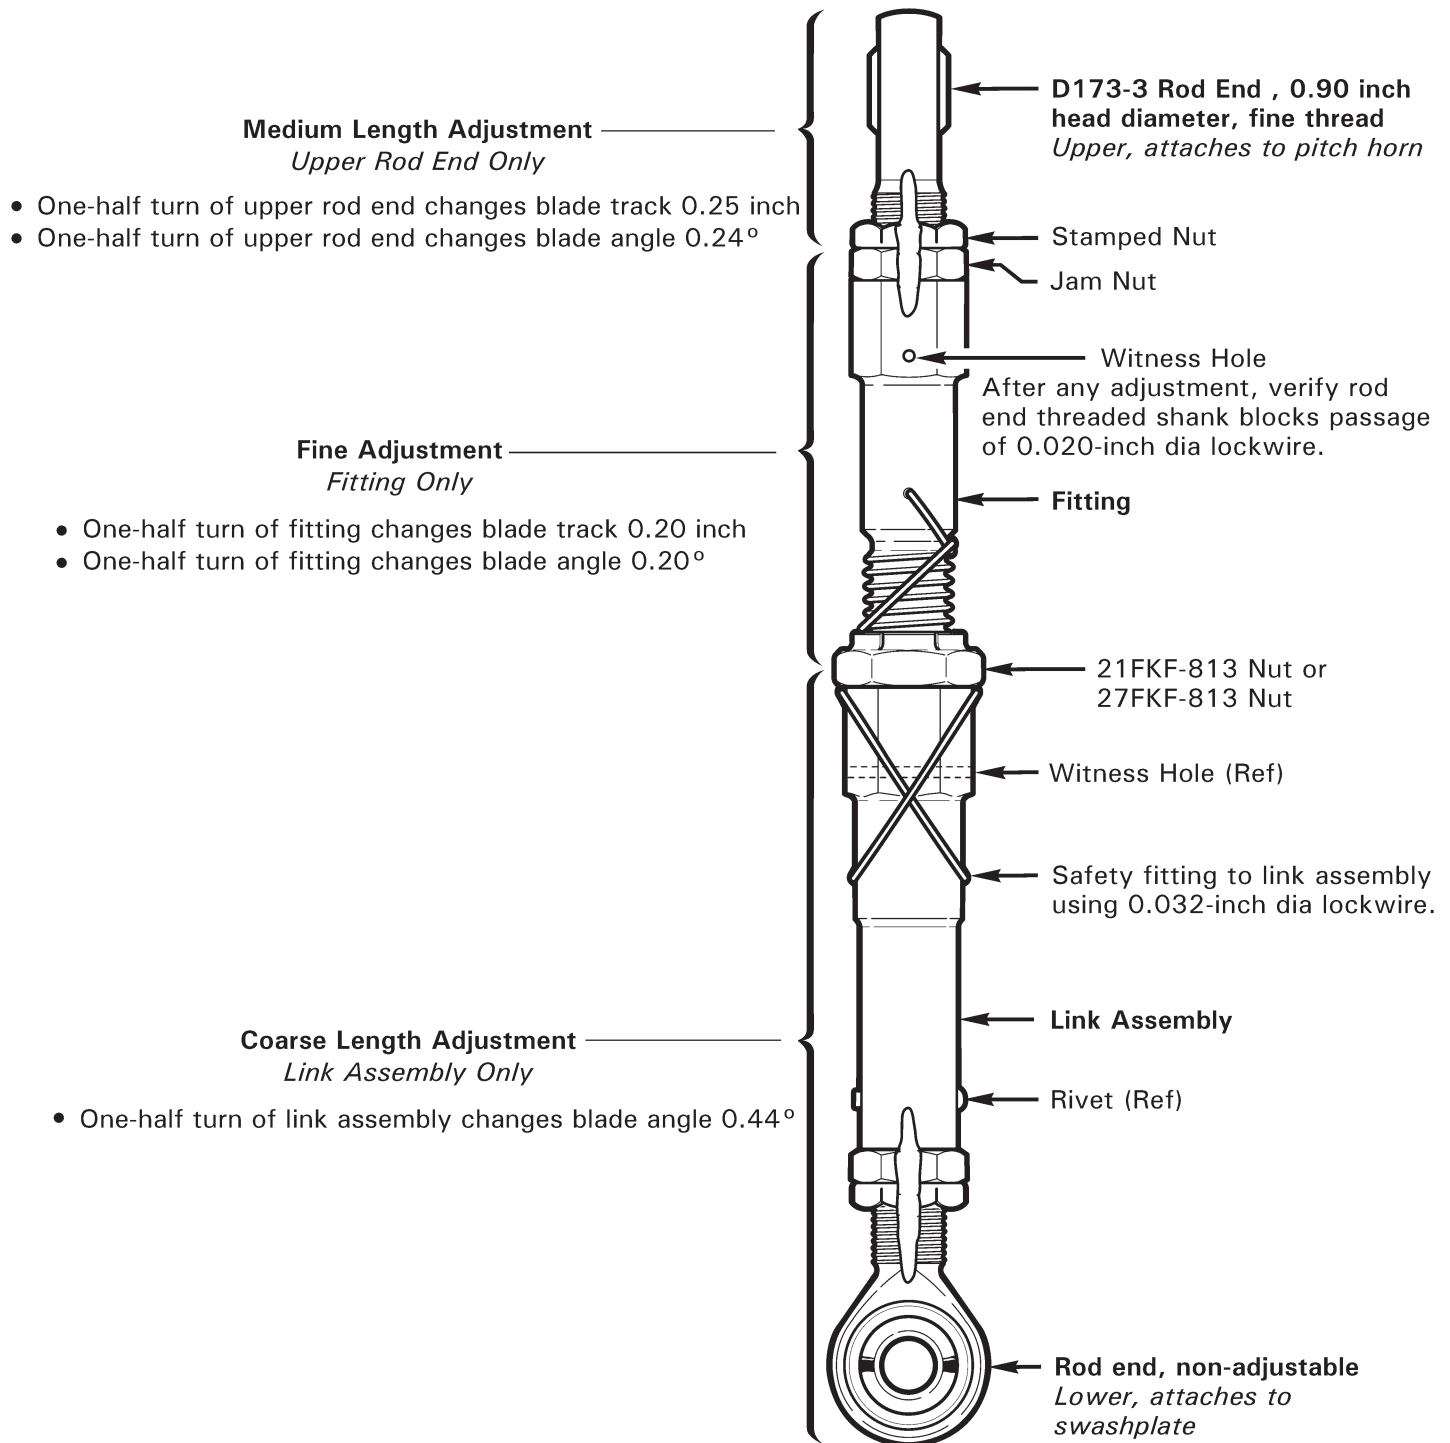

FIGURE 10-12C C258-1 MAIN ROTOR PITCH LINK
1. Refer to Figure 10-12C. Cut and discard pitch link assembly safety wire. Using backup wrench on link assembly, loosen 21FKF-813 or 27FKF-813 nut; using backup wrench on fitting, loosen stamped nut and jam nut at upper rod end.
4. Using backup wrench on link assembly, special torque 21FKF-813 or 27FKF-813 nut per § 23-33. Using backup wrench on fitting, standard torque jam nut and stamped nut at upper rod end per § 23-32. Verify upper rod end and fitting threaded shanks block passage of 0.020-inch diameter lockwire thru witness holes. Safety fitting to link assembly using 0.032-inch diameter lockwire. Torque stripe link per Figure 10-12C.
1. Refer to Figure 10-12C. Using backup wrench on fitting, loosen stamped nut and jam nut at upper rod end. Remove hardware securing rod end to pitch horn.
4. Refer to Figure 2-1A. Position upper rod end to allow as much pitch link rotation as possible without binding. Using backup wrench on fitting, standard torque jam nut and stamped nut at upper rod end per § 23-32. Verify upper rod end's threaded shank blocks passage of 0.020-inch diameter lockwire through fitting witness hole. Torque stripe link per Figure 10-12C.
1. Refer to Figure 10-12C. Cut and discard pitch link assembly safety wire. Using backup wrench on link assembly, loosen 21FKF-813 or 27FKF-813 nut. Remove hardware securing link assembly to swashplate.
4. Position combined fitting & upper rod end to allow as much pitch link rotation as possible without binding. Using backup wrench on link assembly, special torque 21FKF-813 or 27FKF-813 nut per § 23-33. Verify fitting's threaded shank blocks passage of 0.020-inch diameter lockwire through link assembly witness hole. Safety fitting to link assembly using 0.032-inch diameter lockwire. Torque stripe link per Figure 10-12C.